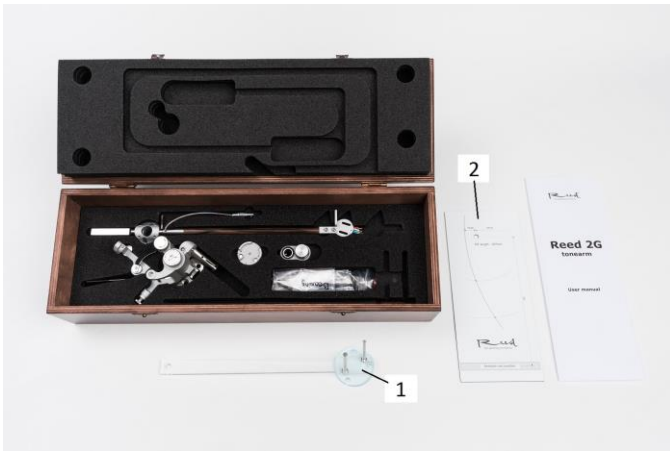
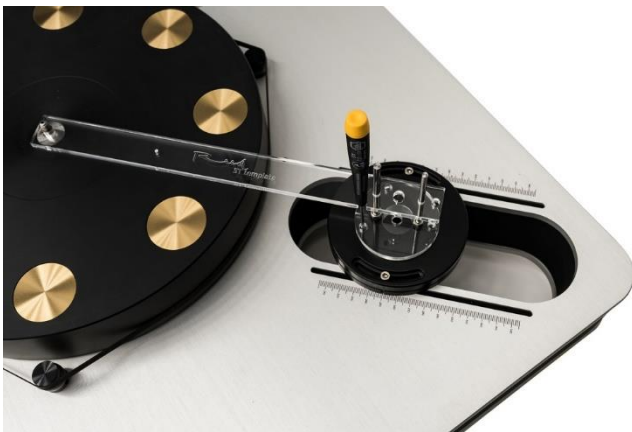

Figure 1
Figure 8
- a) Unpack box contents (Figure 1)
- d) Mount the tonearm onto a turntable using template [1] and protractor [2] (Figure 1).
e) On the turntable, mark three tonearm base mounting holes (Figure 8) using Reed mounting template [1] (Figure 1).